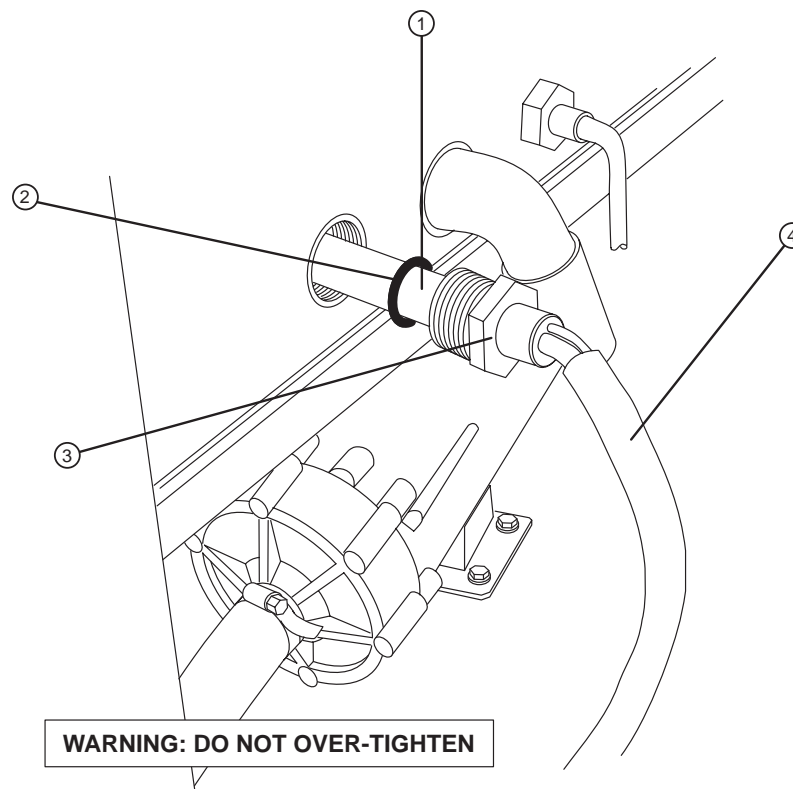

Figure 3-14 The heating element assembly.
4. Follow the red, white, green/yellow power wires (electrical connection) to the terminal block and disconnect. Refer to Figure 3-14.
5. Loosen the PVC nut on the outside of the tank. Refer to Figure 3-14.
6. Slide the heating element out. Refer to Figure 3-14.